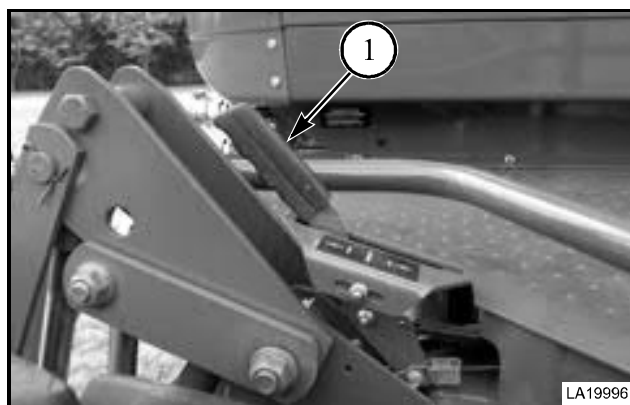

FIG. 22
FIG. 22: To disengage the cylinder stops, raise the header completely. Move the lever (1) toward the cab and then push forward toward the header to disengage the cylinder stops. Make sure the cylinder stops are completely disengaged from both header lift cylinders.